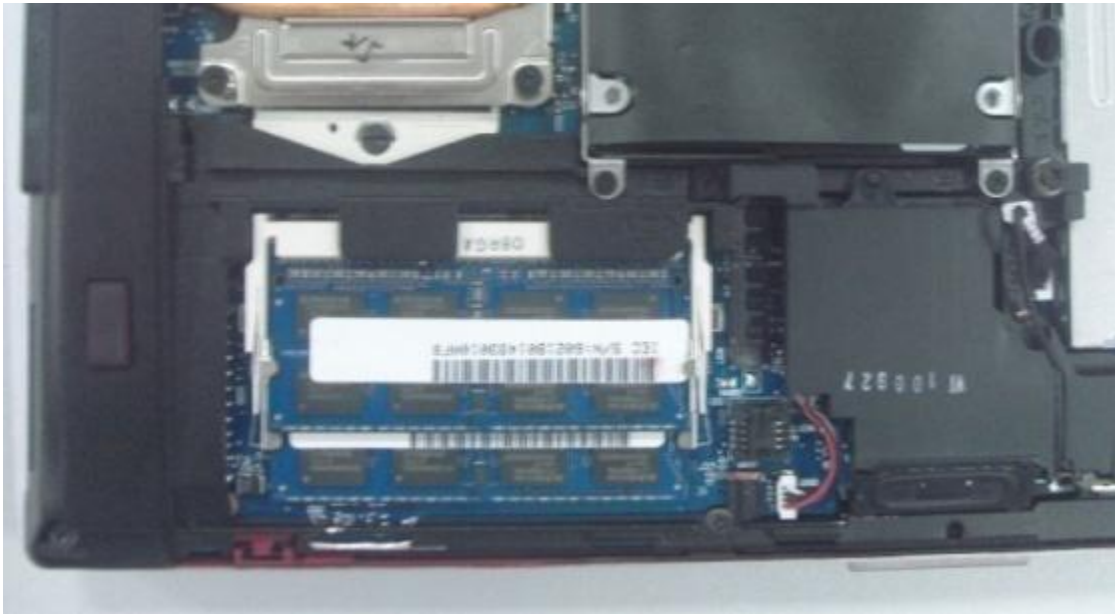

Fig.1
1. Remove all DDRs from M/B. (Fig.1) ◦